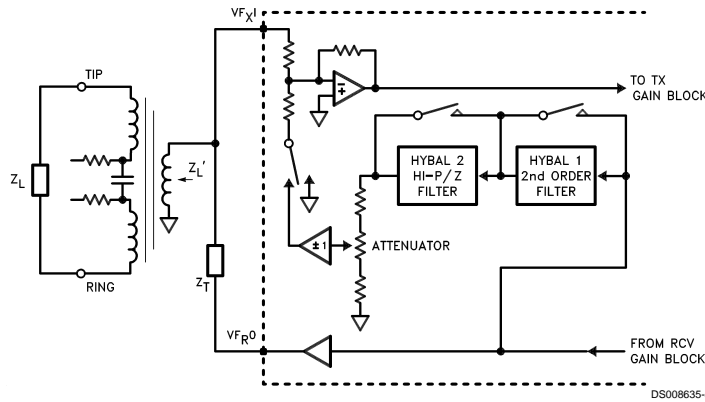

FIGURE 2. Simplified Diagram of Hybrid Balance Circuit
*Figure 2* shows a simplified diagram of the local echo path for a typical application with a transformer interface. The magnitude and phase of the local echo signal, measured at  $V_{F_{XI}}$ , are a function of the termination impedance  $Z_T$ , the line transformer and the impedance of the 2W loop,  $Z_L$ . If the impedance reflected back into the transformer primary is expressed as  $Z_L'$  then the echo path transfer function from  $V_{F_{RO}}$  to  $V_{F_{XI}}$  is:
On initial power-up, the Hybrid Balance filter is disabled. Before the hybrid balance filter can be programmed it is necessary to design the transformer and termination impedance in order to meet system 2W input return loss specifications, which are normally measured against a fixed test impedance (600 or 900 $\Omega$  in most countries). Only then can the echo path be modeled and the hybrid balance filter programmed. Hybrid balancing is also measured against a fixed test impedance, specified by each national Telecom administration to provide adequate control of talker and listener echo over the majority of their network connections. This test impedance is  $Z_L$  in *Figure 2*. The echo signal and the degree of transhybrid loss obtained by the programmable filter must be measured from the PCM digital input,  $D_{RO}$ , to the PCM digital output,  $D_{XO}$ , either by digital test signal analysis or by conversion back to analog by a PCM CODEC/Filter.